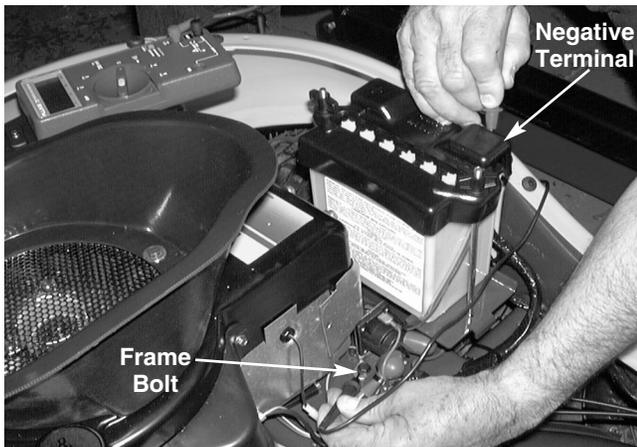

FIGURE 2.
-There will be **CONTINUITY**. See figure 2.